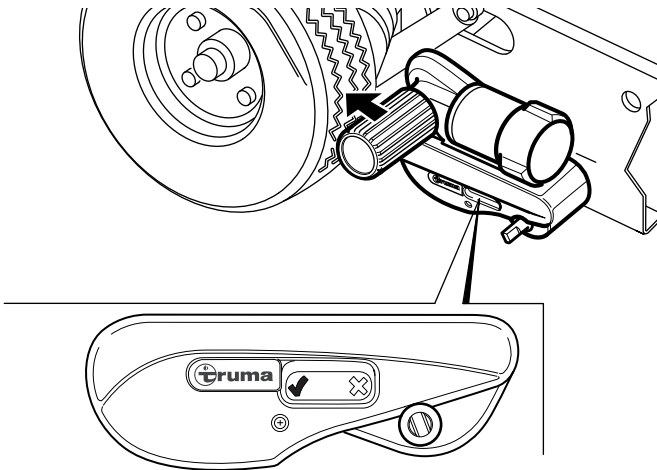

Fig. 15
- Turn the engagement lever towards the vehicle wheel. The engagement mechanism must engage so that the engagement lever no longer springs back (Fig. 14-2). As soon as the engagement mechanism has engaged, the position indicator on the manoeuvring system's position indicator points to  (Fig. 15).